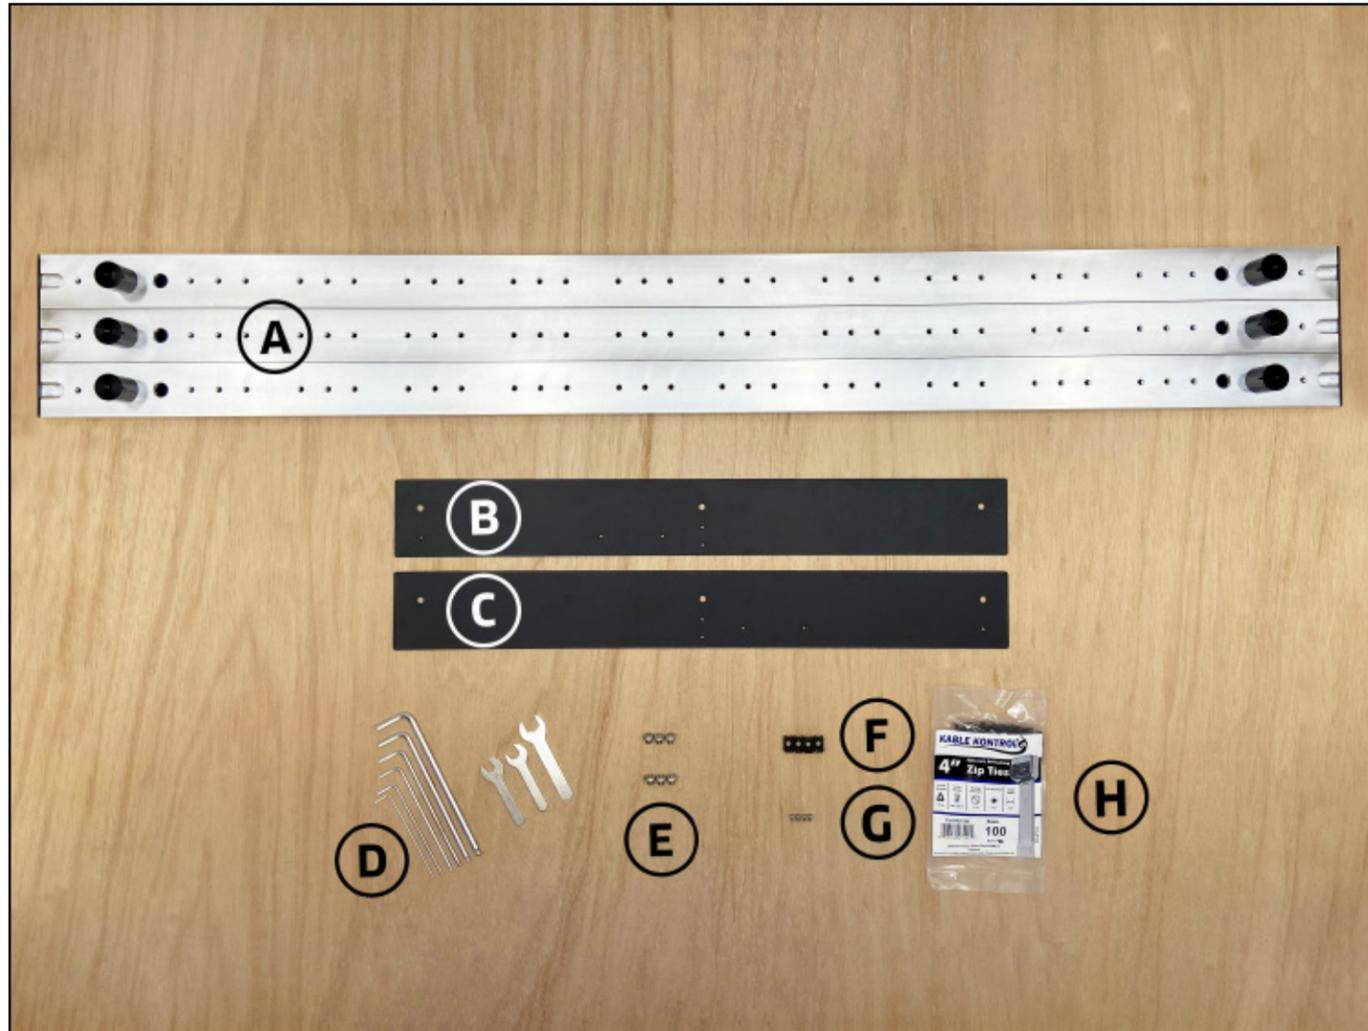

Figure 1-1
Step 1 – Baseframe box contents; see *Fig. 1-1*.